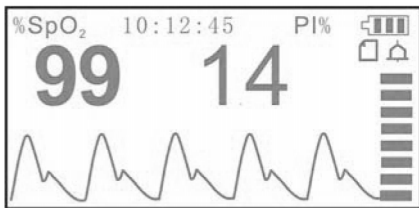
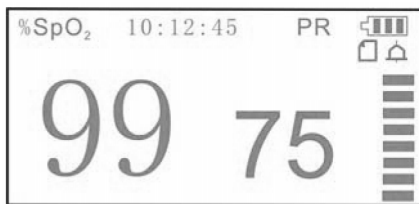
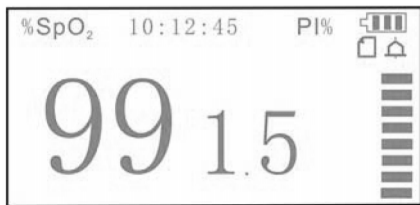

Figure 7
Figure 8A PR Observation Screen
Figure 8B PI Observation Screen
On default screen, press “” Mode/OK key to enter into other screen layouts (as shown in Figure 8A).
▲ / ▼ **(Navigation key)**: shift screens between PR observation screen (Figure 8A) and PI observation screen (Figure 8B).
**(Mode/OK key)**: shift screens among four screens (as shown in Figure 6, Figure 7, Figure 8A and Figure 8B.)